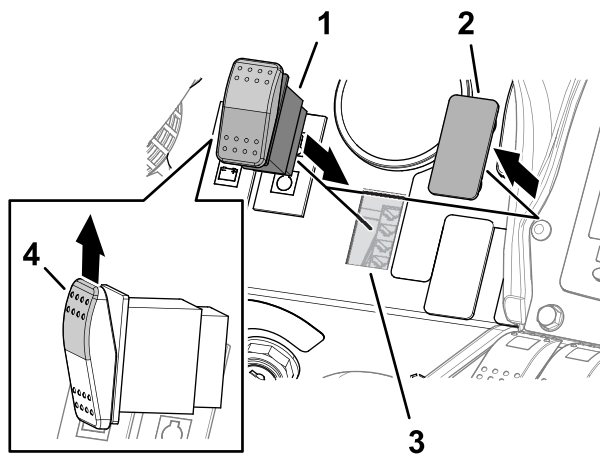

Figure 85
1. Remove the plug in the dash panel as shown in Figure 85.
2. Align the 2-position switch with the shoulder of the switch (Figure 85) aligned to the top of the dash panel.
3. Insert the 2-position switch into the hole in the dash panel (Figure 85).